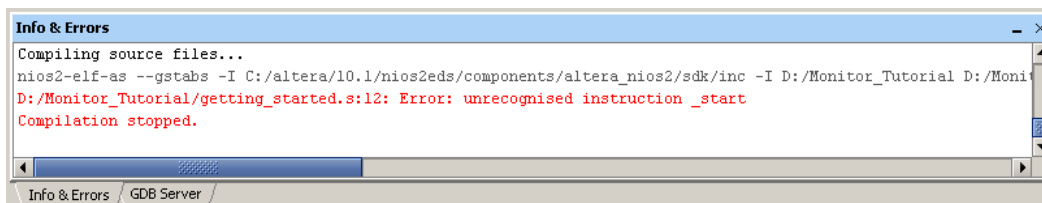

Figure 14. An example of a compiler error message.
During the process of developing software, it is likely that compilation errors will be encountered. Error messages from the Nios II assembler or from the C compiler are displayed in the Info & Errors window. To see an example of a compiler error message, edit the file *getting\_started.s*, which is in the project's directory, and remove the colon that appears at the end of the `_start` label, in line 12. Recompile the project to see the error shown in Figure 14. The error message gives the line number in the file (12) where the error was detected. Fix the error, and then compile and load the program again.